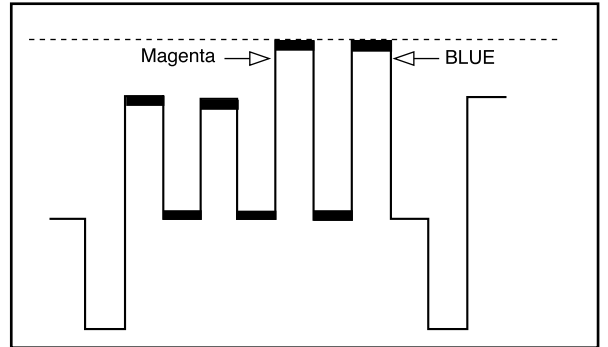

Fig. 3-3
1. Connect the oscilloscope to CNA704 ③ PIN B.
2. Using the volume keys on the jig remote controller, adjust the top excursions of waveform "Magenta" and "Blue" to be linear (Fig. 3-3).